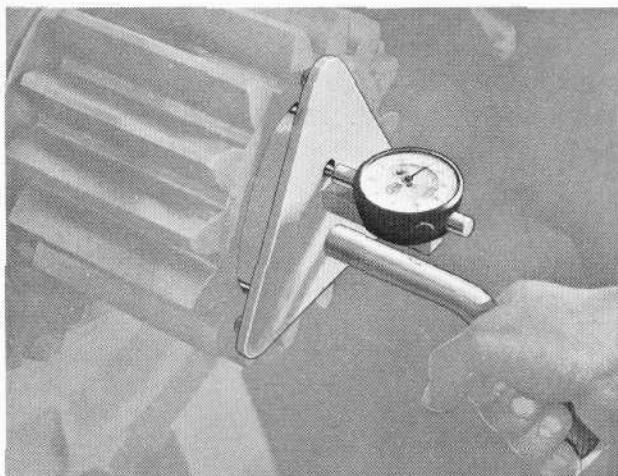

Fig. 20 - Measuring Pinion Advance
5. Using micrometer depth gauge, measure and record pinion position with respect to the shaft, Fig. 20.